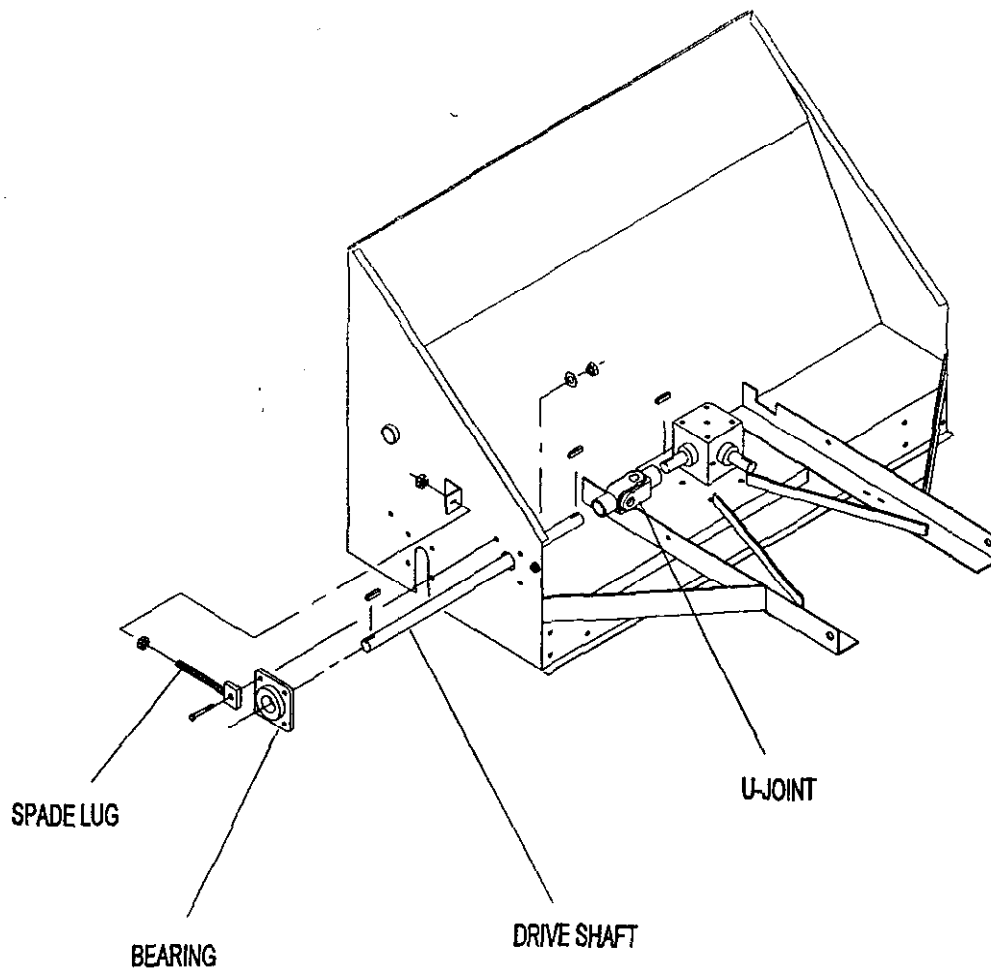

Figure 3
4. (FIG. 3) Remove the gearbox guard and the existing PTO from the tractor. Attach the drive shaft, the U-joint and the bearing. The spade lug, is an adjustment for the bearing and will be adjusted later.
6. (FIG. 3) CHAIN TENSION ADJUSTMENT: The chains are tightened/loosened by the use of (1) spade lug.